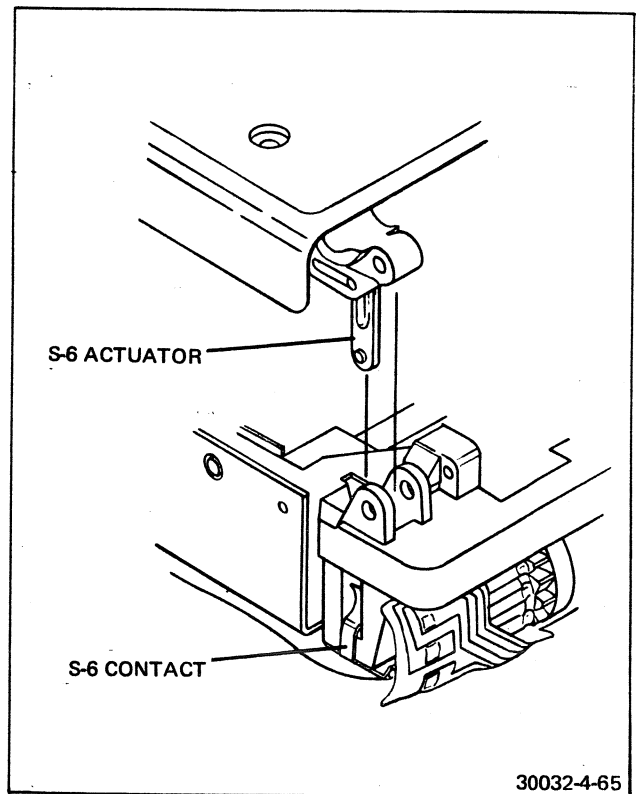

FIGURE 4-65 LOCATION OF S6 ACTUATOR LINK
55. Lower the housing so that the free-hanging actuator passes through the cutout in the inner frame assembly toward the S6 contacts. See Figure 4-65.